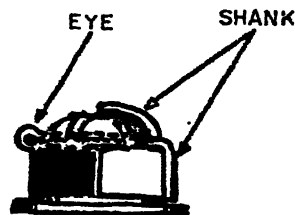

FIGURE 9
- h. Cut the remaining shank to such a length that the end of the shank will just clear the washer when the shank is pressed down the side of the nut. See figure 9.